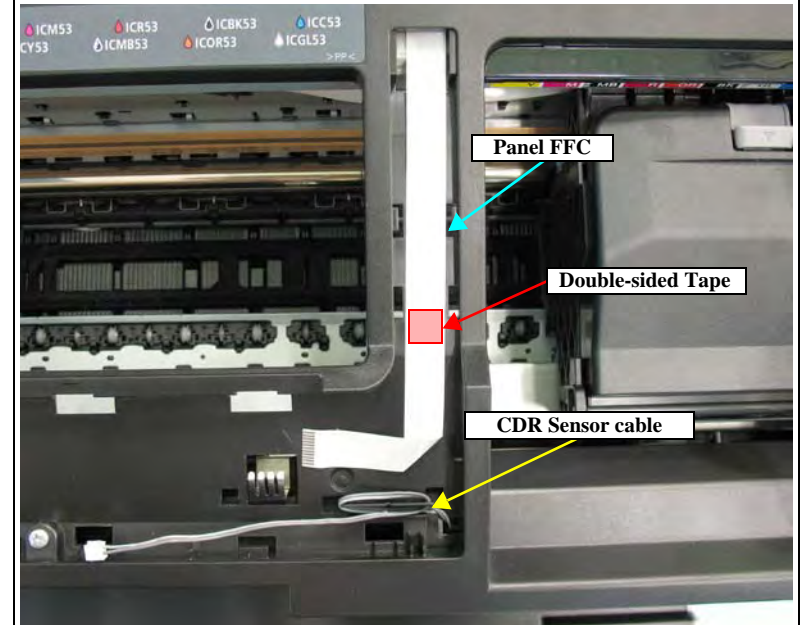

Figure 4-15. Reinstalling the Panel Unit
4. Remove the Panel FFC from the Panel Unit. Refer to Figure 4-15.